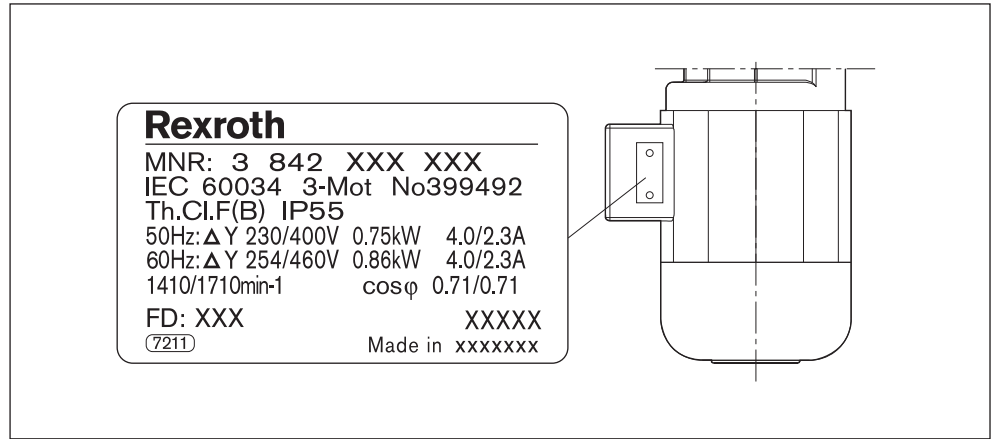

Fig. 9: Motor nameplate (example)
- Take account of the electrical power requirement shown on the motor nameplate, see Fig. 9 on page 11.